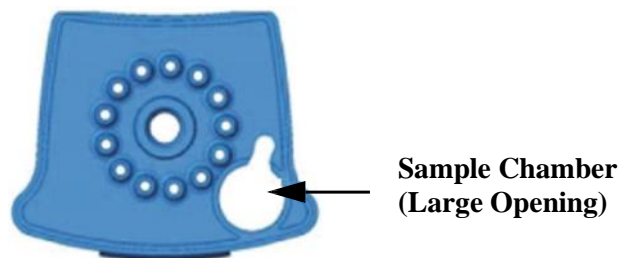

Figure 11. Xpert Xpress SARS-CoV-2/Flu/RSV Cartridge (Top View)
10. To transfer the sample to the cartridge, squeeze the top bulb of the pipette completely again until it is fully flat to empty the contents of the pipette (300 μ L) into the large opening (Sample Chamber) in the cartridge shown in Figure 11. Some liquid may remain in the overflow reservoir. Dispose of the used pipette.